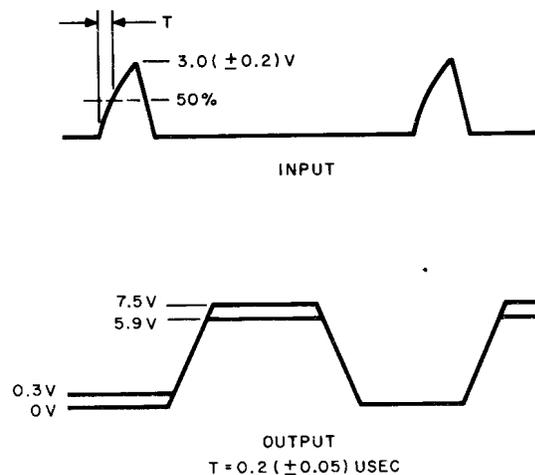

Fig. 43A — Monopulser Test
(2) Adjust potentiometer P1 until the amplitude of the input test pulse on J8 is $3.0 (\pm 0.2)$ volts on the oscilloscope. The input test pulse should appear as in Fig. 43A.
(3) Rotate the INPUT selector through positions 1 to 6. The output pulse on J3 should appear as in Fig. 43A. Time base measurements need not be made on the output waveform.